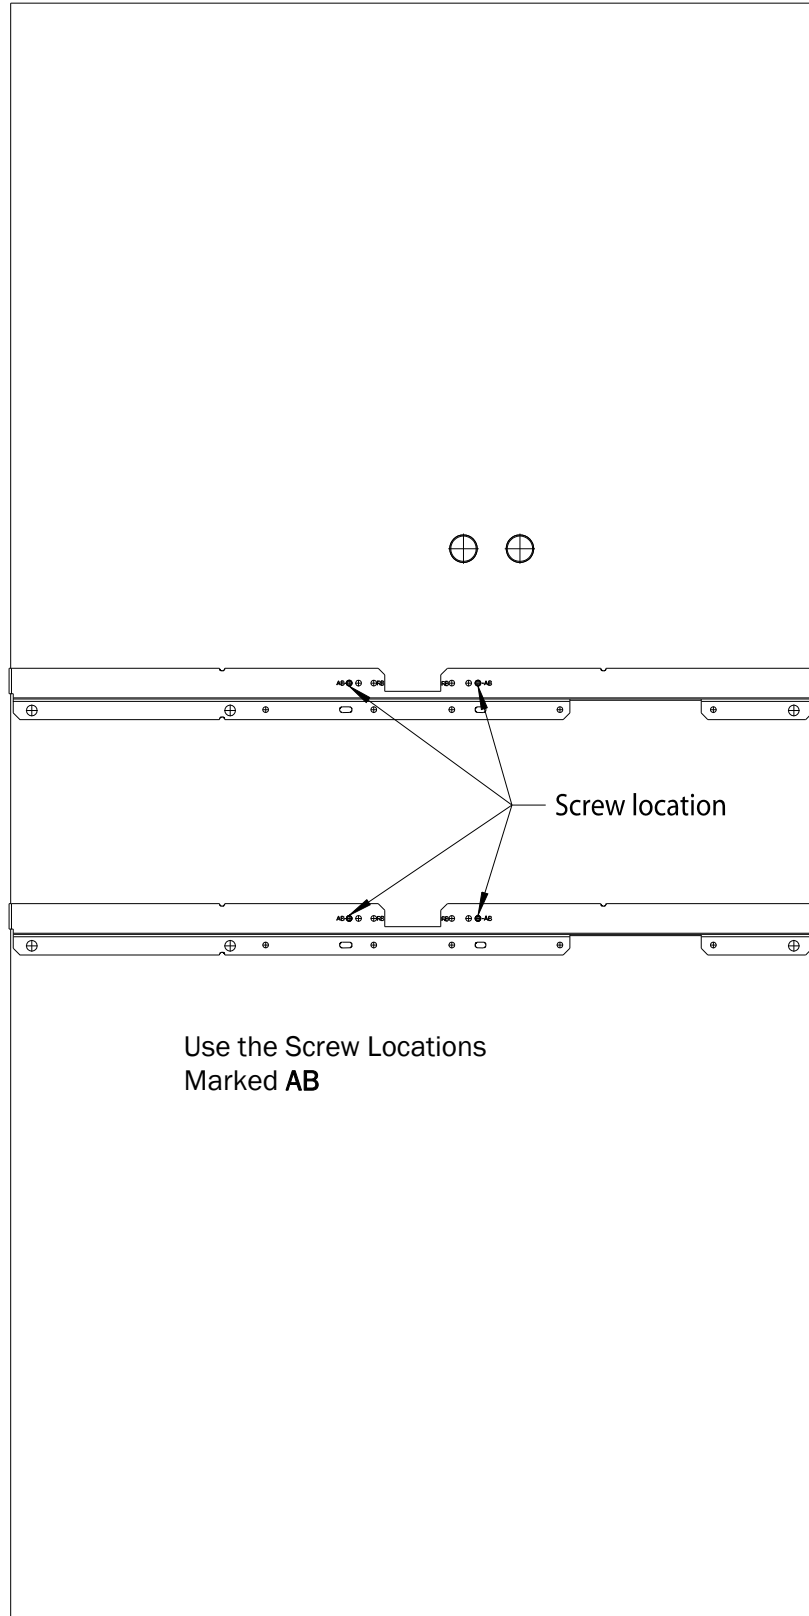

Figure 2-14: Core AP Below Ceiling Tile Mounting Rail Screw Locations
4. Mark the location of the **AB** screw holes in the mounting rails on the ceiling tile where the holes will be drilled through the tile as shown in Figure 2-14. Drill four .375-inch (10 mm) diameter holes in the ceiling tile.